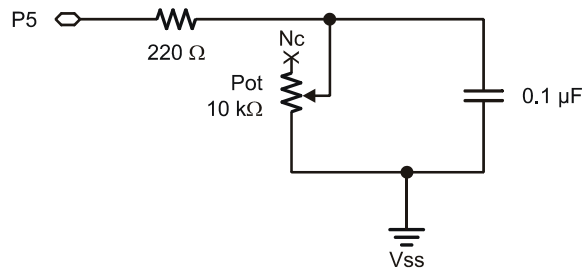
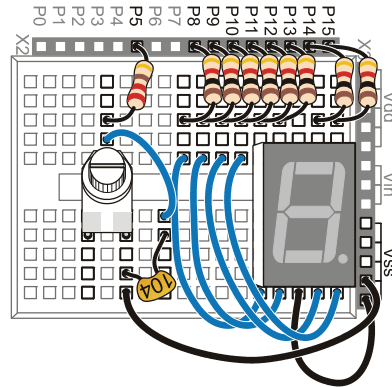

Figure 6-15
Figure 6-16
Figure 6-15 shows a schematic of the potentiometer circuit that should be added to the project. Figure 6-16 shows a wiring diagram of the circuit from Figure 6-15 combined with the circuit from Figure 6-11 on page 176.
- ✓ Add the potentiometer circuit to the 7-segment LED display circuit as shown in Figure 6-16.